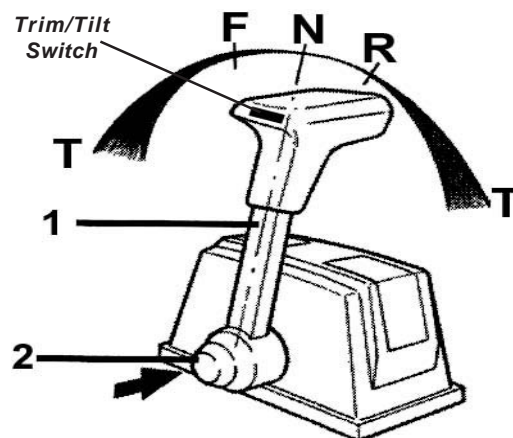

Figure F4: Single Binnacle Control Operation
Shifting and engine speed are controlled with the same lever (1). See Figures F4 & F5.
The shift mechanism on the controls can be disengaged to allow for easier starting and engine warm-up. See Figures F4 & F5.